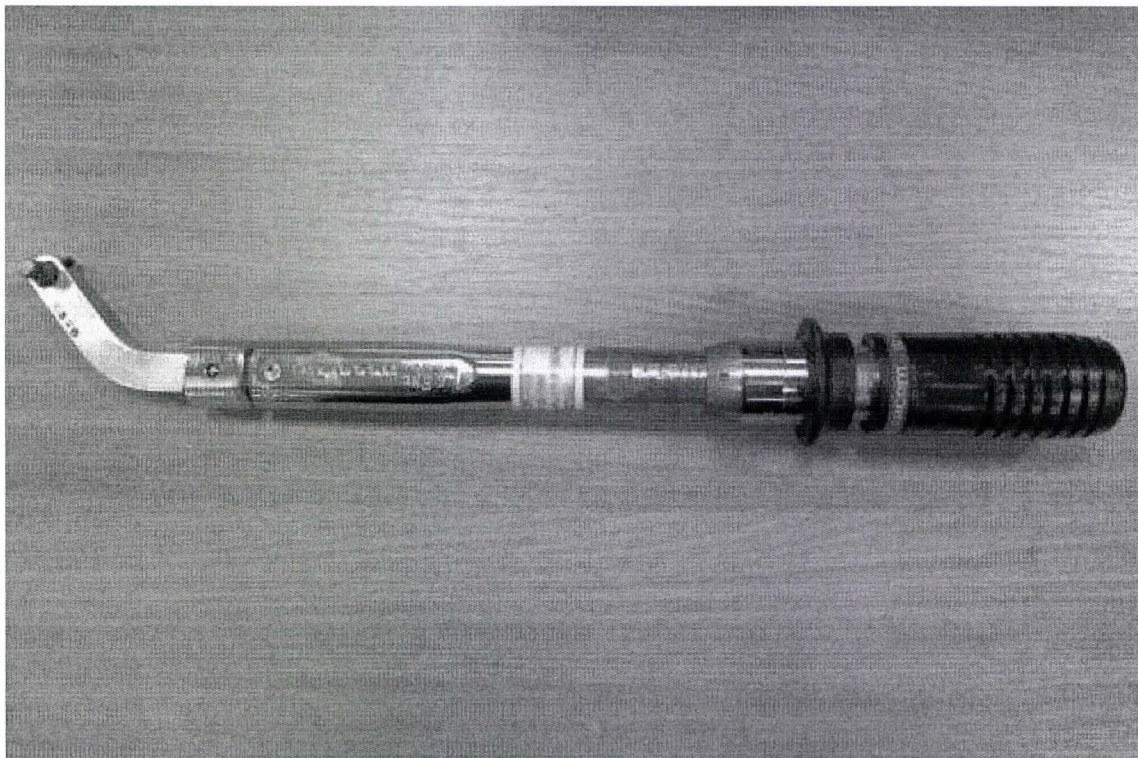

Figure 5
If the vehicle is not already listed as repaired in "Repair history" (in Elsa Pro) check the vehicle for the campaign completion paint mark which is a Yellow paint confirmation mark on the Left hand hinge front fixing Bolt (Figure 5) if it is evident that this campaign has not been applied, carry out the required work in accordance with these instructions.
- When securing the boot hinge bolts use a suitable Torque wrench which will accommodate the 9mm x 12 mm adaptor fitting as shown in Figure 5